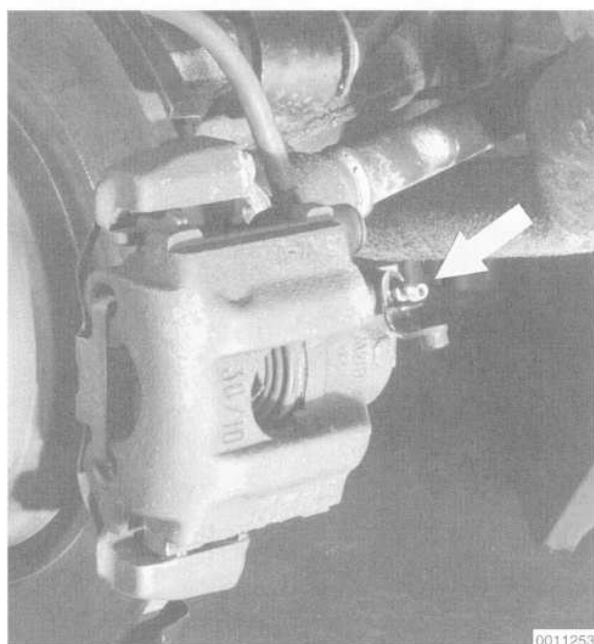

Fig. 1. Brake caliper bleeder screw (arrow).
3. Open the bleeder screw. See Fig. 1. Have the helper slowly pump the brakes twelve times with the bleeder screw open, holding the pedal down on the last pump. Close the bleeder screw.